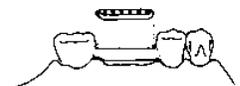

Fig. 3
5. Fit the female channel to length by cutting between the weld points (Fig. 3). Set the teeth with the channel in place to assure adequate space and proper contours. Have a try-in and prepare an index of the approved setup.